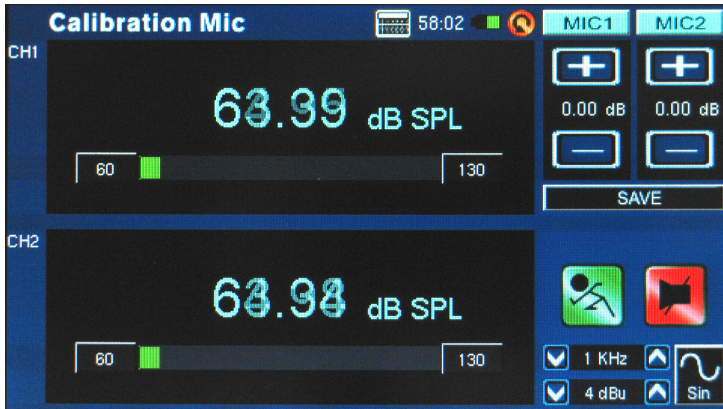

figure 69
1. Enter the System > Calibration > Mic menu (figure 69).